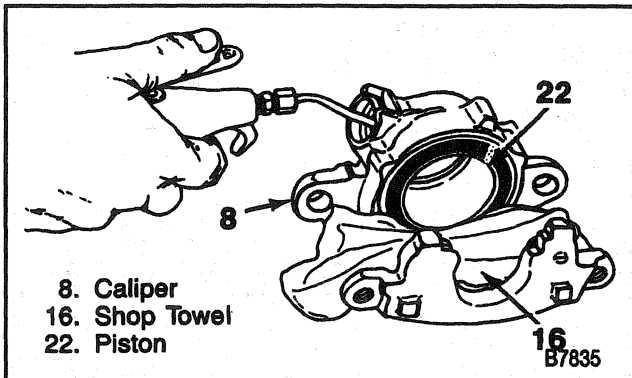

Figure 34—Removing the Piston
3. Piston (22).
- Direct compressed air into caliper fluid inlet (Figure 34).